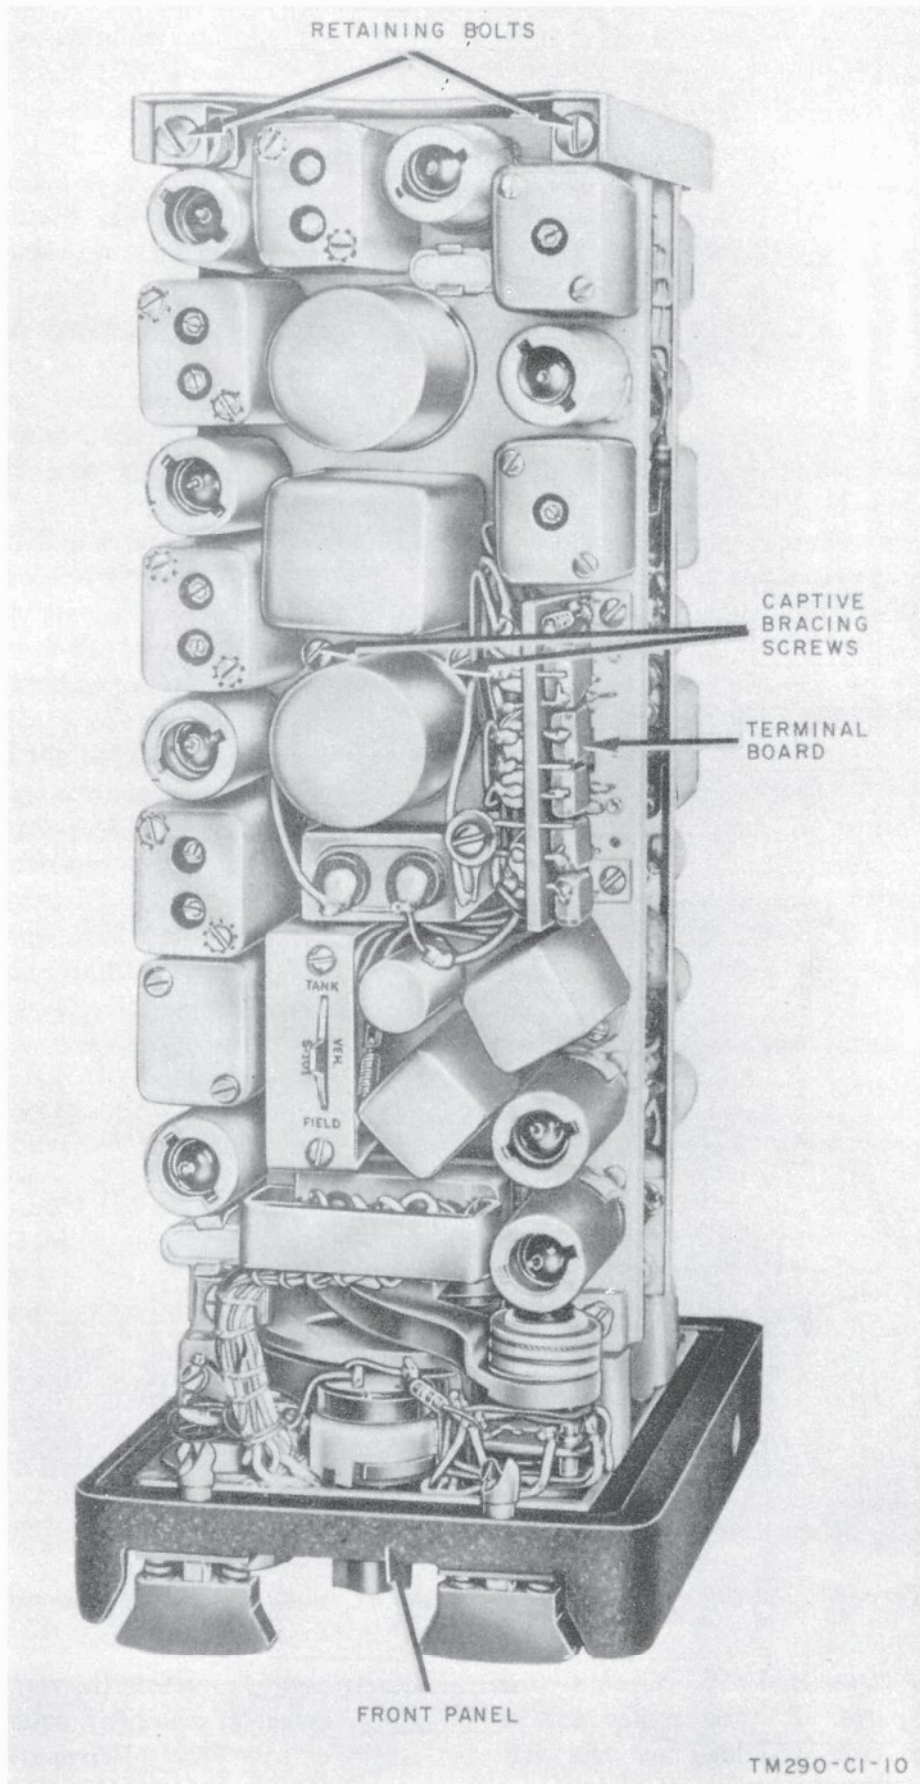

Figure 7. Receiver-Transmitter RT-70(*)/GRC, case removed, view of IF chassis, left side of panel-and-chassis assembly.
(3) *IF chassis.* The IF chassis (figs. 7, 43,